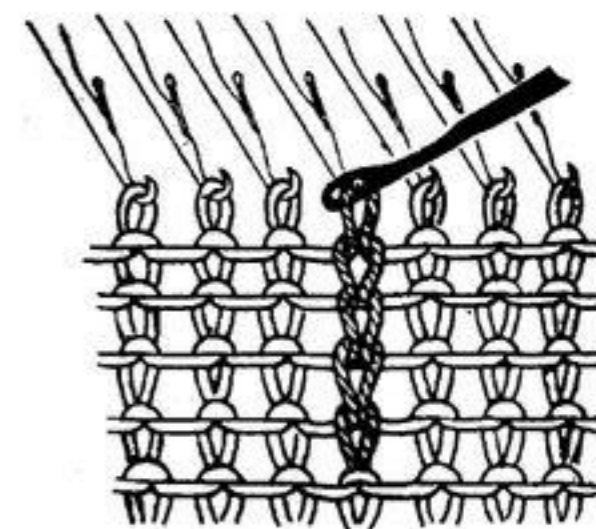

Fig. 34-7
5. Hook the final loop back on the empty needle. (Fig. 34-7)